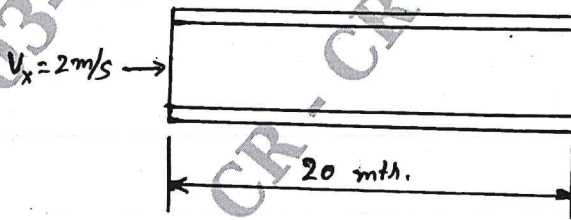

Fig Q8(b)
b. For the smooth pipe shown in Fig Q8(b), with uniform cross section of  $1\text{ m}^2$ , determine the flow velocities at the centre and right end, Take velocity at left  $V_x = 2\text{ m/sec}$ .